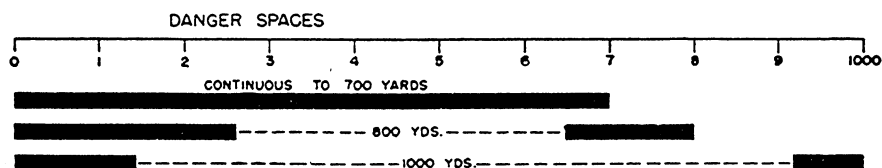

Figure 3-58.—Danger space at 1,000-yard range.
**DANGER SPACE** is the area between the weapon and the point of impact in which the bullet does not rise above the average height of a man (presumed to be 68 inches). At ranges up to 750 yards, a rifle bullet fired over level or uniformly sloping ground does not rise above this height; therefore, for such ranges, the danger space is continuous. At ranges greater than 750 yards, a portion of the trajectory is above this height; therefore, the danger space is not continuous but exists for a variable distance in front of the muzzle and in front of the point of impact. In the latter case, the danger space begins again when the bullet comes within 68 inches of the ground. The length of the two danger space zones is dependent upon the range, as shown in figure 3-58.